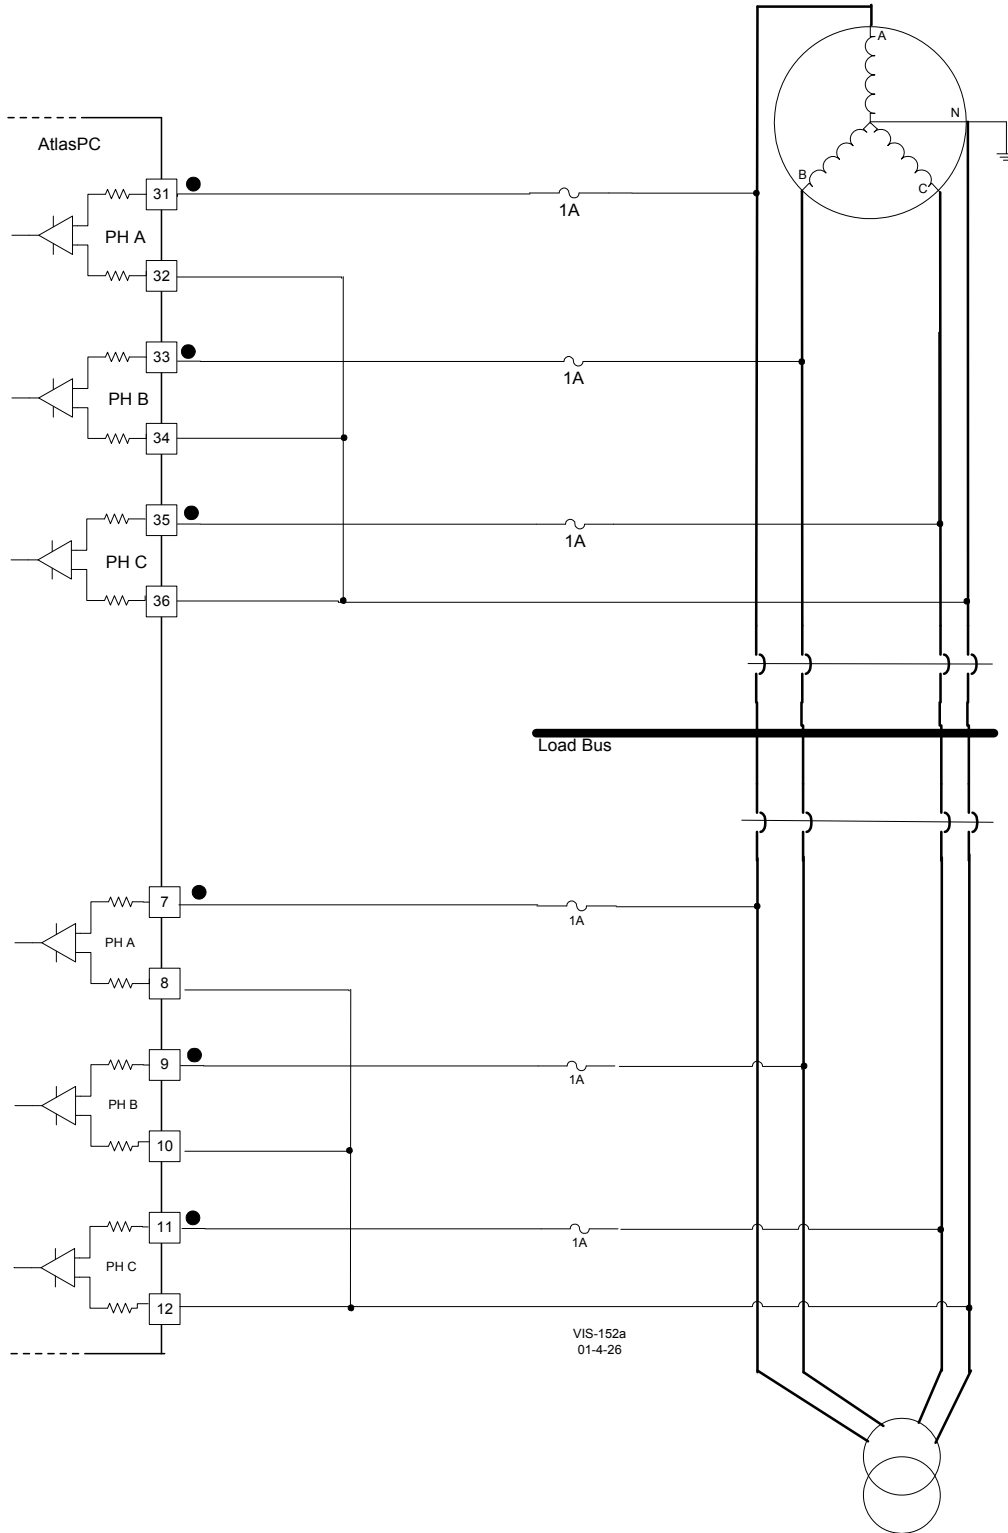

Figure 8-4. Wiring Example–Wye Connected System
- Refer to Figures 8-4 through 8-8 for PT wiring.